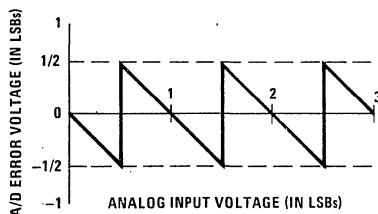

FIGURE 6. Error Plot of a Perfect A/D Showing Effects of Quantization Error
7.280 VDC. These voltage values represent the center values of a perfect A/D converter. The input voltage has to change by $\pm 1/2$ LSB (± 20 mV), the "quantization uncertainty" of an A/D, to obtain an output digital code change. The effects of this quantization error have to be accounted for in the interpretation of the test results. A plot of this natural error source is shown in *Figure 6* where, for clarity, both the analog input voltage and the error voltage are normalized to LSBs.